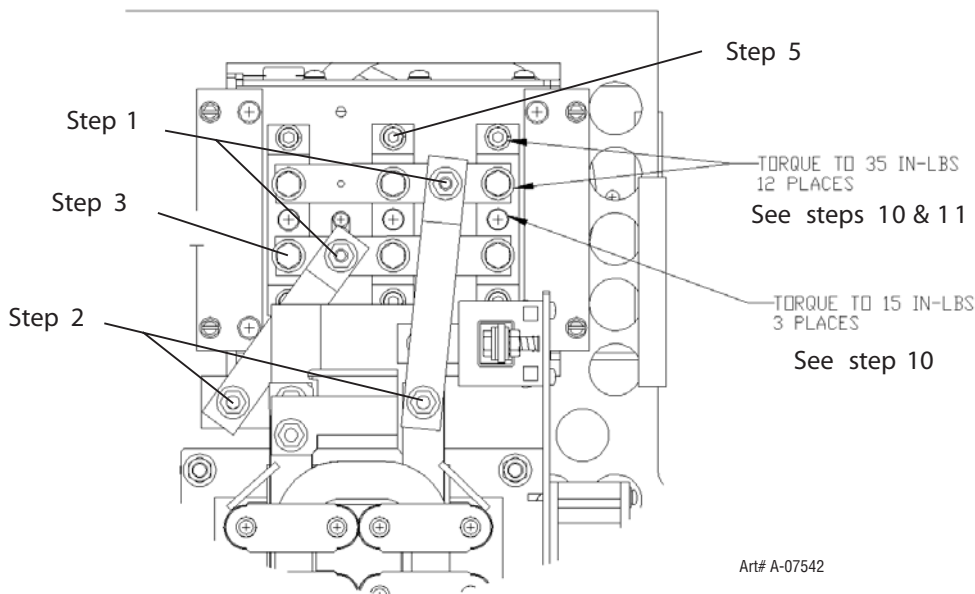

Figure 7-1: Output Diode Assembly
Step 10: Torque the diode mounting screws. (See Figure 7-1). Torque the center mounting screw first, and then the two outer screws.
Step 11: Torque the six screws holding the bus bars to the diodes (See Figure 7-1).